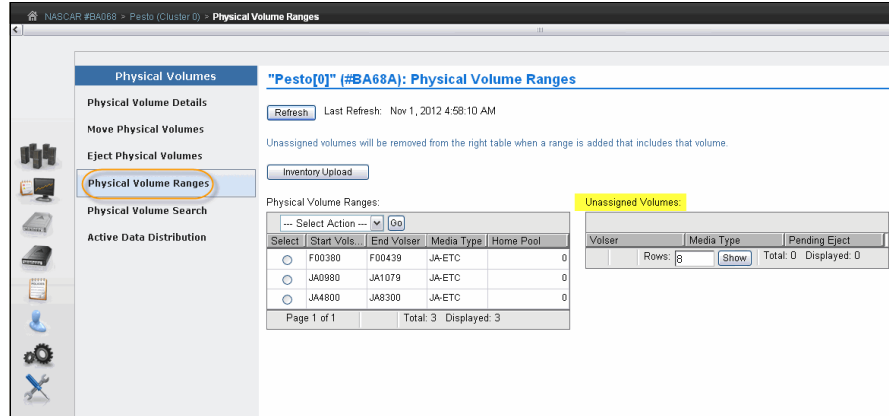

Figure 9-101 Physical Volume Ranges window
5. For a TS7700T cluster, click **Physical** → **Physical Volumes** → **Physical Volume Ranges** and click **Inventory Upload**, as shown in Figure 9-101 on page 543.
8. For a TS7700T cluster, click **Physical** → **Physical Volumes** → **Physical Volume Ranges** and click **Inventory Upload**, as shown in Figure 9-101 on page 543.
Use the window that is shown in Figure 9-101 to add, modify, and delete physical volume ranges. Unassigned physical volumes are listed in this window. If a volume is listed as unassigned volume, and this volume belongs to this TS7700, a new range should be added including that volume to fix it. If an unassigned volume does not belong to this TS7700 cluster, it should be ejected and reassigned to the proper logical library in the physical tape library.